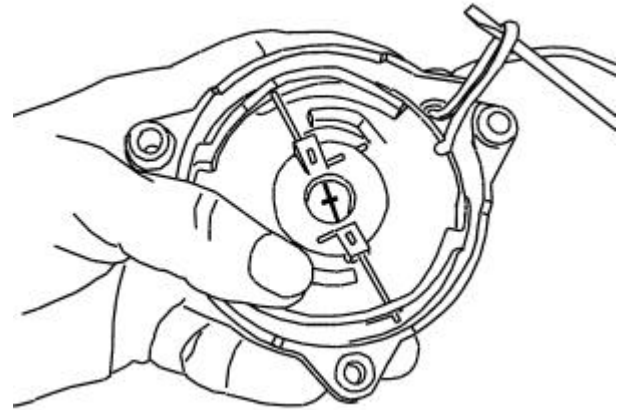

Fig.6-1
(1) Remove the RECOIL STARTER from the engine.
(2) Pull out the STARTER KNOB, press the ROTARY REEL with your thumb as shown in Fig.6-1 when the REEL cut-out comes to the STARTER ROPE OUTLET, and pull the STARTER ROPE to the inside of the RECOIL STARTER with a screwdriver. Using the cut-out, rewind the REEL to the direction of the arrow until it stops by controlling the rotation of the REEL with your thumb.
Unwind the STARTER ROPE 1 to 2 turns in the way as shown in Fig.6-1, since the SPIRAL SPRING may be over-stressed if the STARTER ROPE still remains in the rope groove.